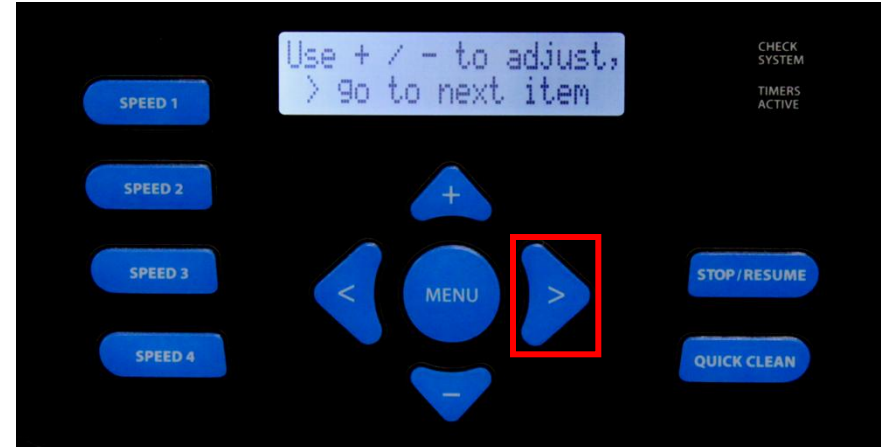

Fig 35
- 5. On the next screen it will tell you how to use the  &  buttons to adjust, and the  to go to the next item (fig 35). Press the  button to continue.